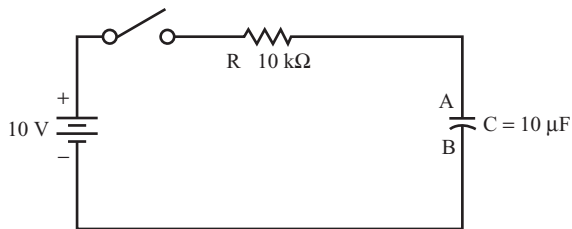

FIGURE 1.15
The capacitor shown in Figure 1.15 charges when the switch is closed.
- B.** What is the time constant for the circuit shown in Figure 1.15? _____
- A.** What is the voltage on plate A and plate B of the capacitor in Figure 1.15 before the switch is closed? _____